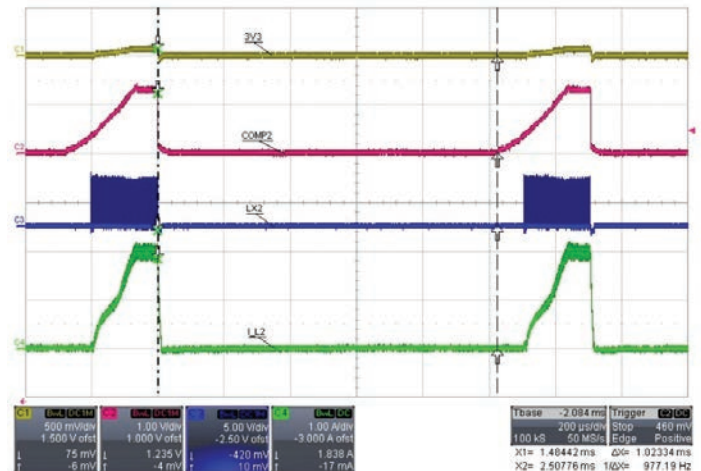

Figure 5: Synchronous buck hiccup mode operation when VOUT is shorted to GND, $f_{OSC} = 2$ MHz.
5. Hiccup short-circuit protection, shown in Figure 5
For the synchronous buck, hiccup mode is enabled during soft-start after $t_{HIC2(EN)} f_{OSC}$ cycles (512). If $V_{FB(ADJ)}$ is less than 200 mV_{TYP} , the number of overcurrent pulses (OCP) is limited to only 32. If $V_{FB(ADJ)}$ is greater than 200 mV_{TYP} , the number of OCP pulses is increased to 120 to accommodate the possibility of starting into a relatively high output capacitance. The time between restart attempts or the hiccup recovery time is $t_{HIC2(REC)}$ ($2048 f_{OSC}$ cycles), as indicated by the cursors in Figure 5.